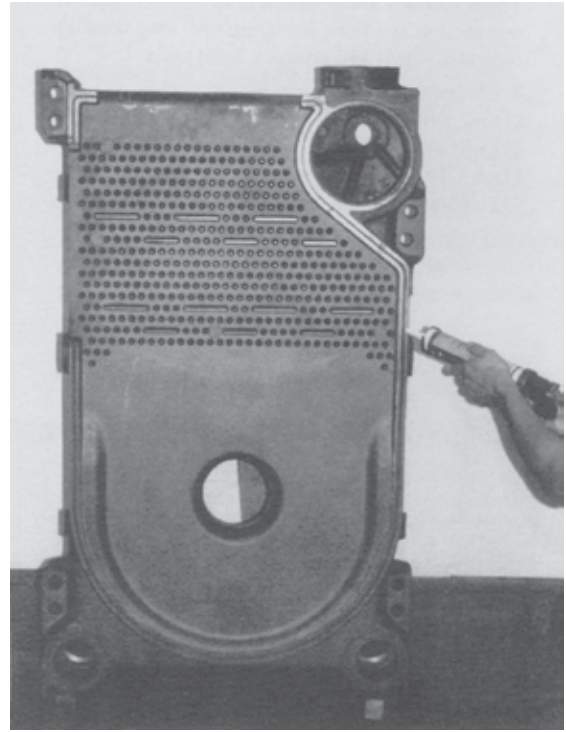

Figure 7: Affixing the Fiberglass Rope
- h. Remove a 96" length of fiberglass rope from the assembly carton. Starting with the area around the upper 7" nipple port, firmly press the rope into the groove, so that the adhesive holds it in place. (If more than 25 minutes have passed since the adhesive was applied, it may be necessary to reapply.) Continue to affix the rope to the groove in this fashion around the perimeter of the section. Make sure that the rope does not droop or hang outside of the groove. When the end of the groove is reached, cut off the excess rope. Push the length of excess rope into the groove at the top corner of the section face (opposite of the 7" nipple port.) Cut off and discard any remaining rope after groove is filled. See Figure 7.